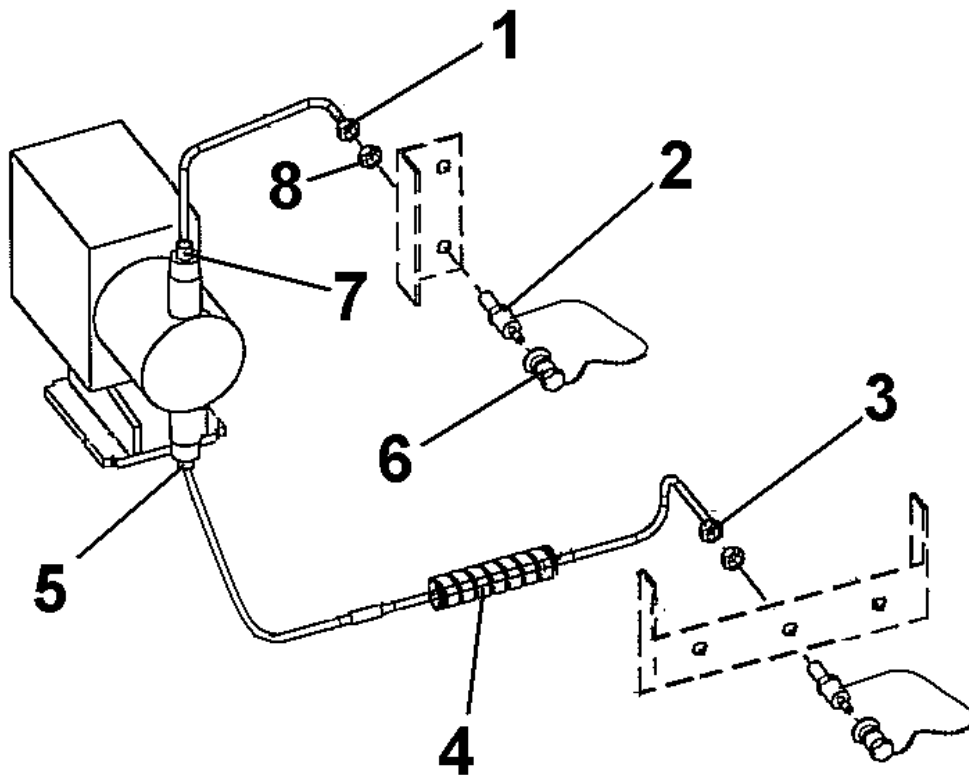

Figure 7. Coagulant/Bisulfite Tubing.
1. Disconnect discharge tubing at nut (1) and (7). See Figure 7.
2. Remove inserts (8) from the tubing.
3. Disconnect suction tubing at nut (3) and (5).
Refer to Figure 7 for this procedure section.